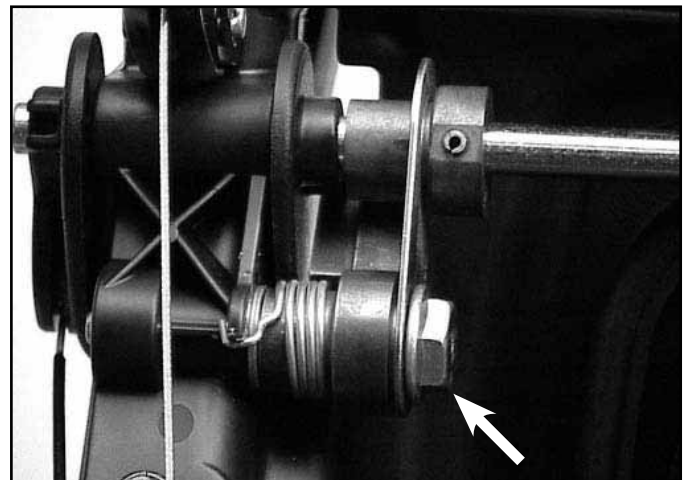

Fig 029
- Remove the Shoulder Screw under the left handgrip (Fig. 029). When it is removed the Lockout Latch, Torsion Spring, Flat Washer, and Locknut will drop out.